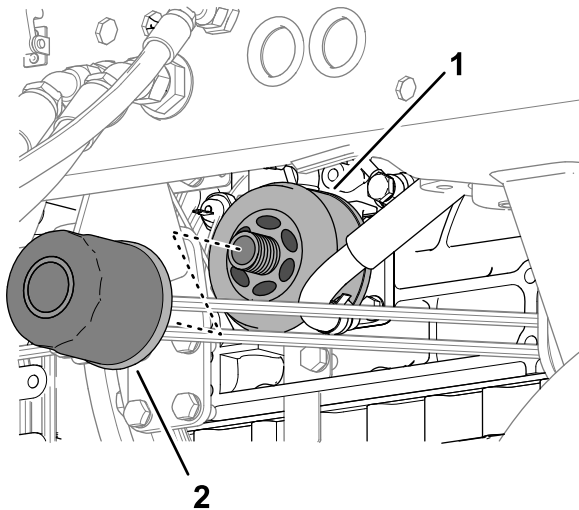

Figure 115
- Rotate the oil filter counterclockwise to remove it (Figure 115).